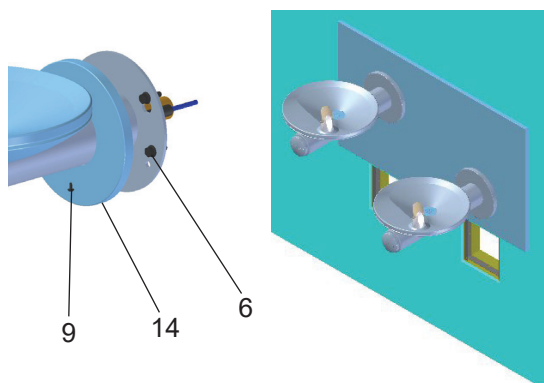

Figure 10 - Fountain Installation
5. **Install fountain.** Remove screw (Item 9) from cover plate and slide cover plate (Item 14) toward basin. (See Figure 10)